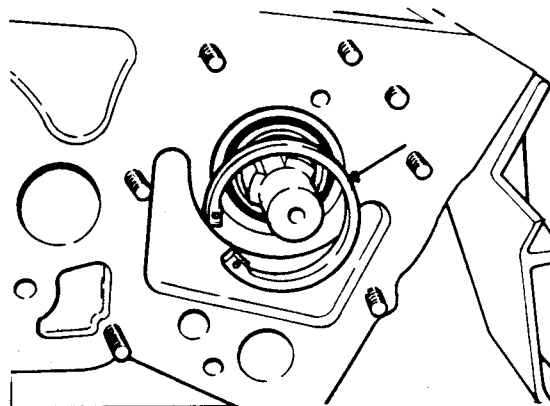

Fig H2.17
- (5) Refer to Fig H2.17. Remove the spring clip that retains the front bearing.